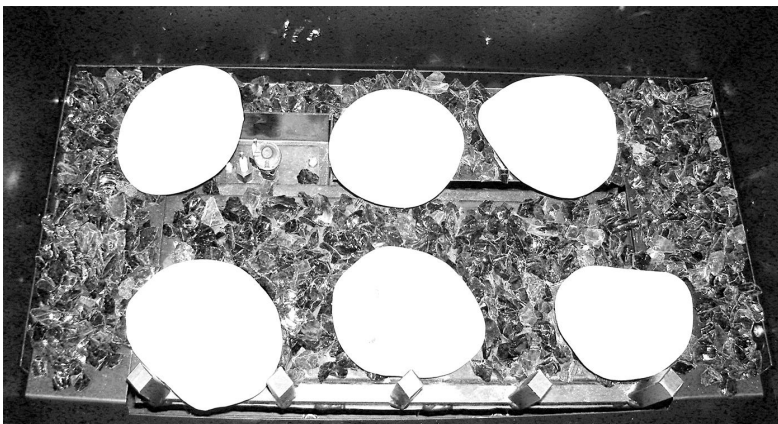

Figure 38 - Placing supplied glass media around stones.
2. Fill the space around the stones with the supplied glass media to make approx. 0.5" glass media bed over all of the burner ports and side supports as shown on *Figure 38*.